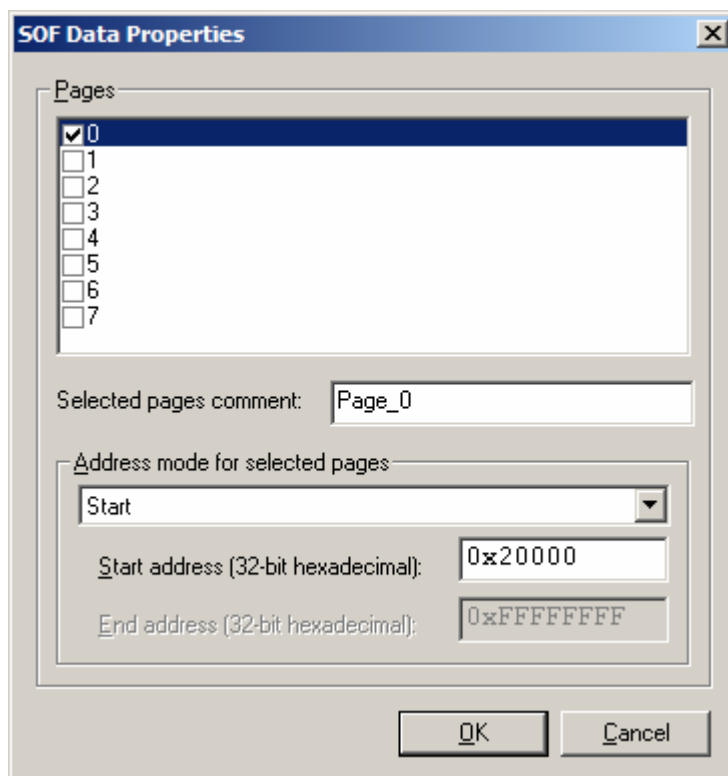

Figure 2 – SOF Data Properties window
3. Click on the **SOF Data** row of the table to select it, then click on the **Properties** button to open the **SOF Data Properties** window as shown in Figure 2 on page 2-3.